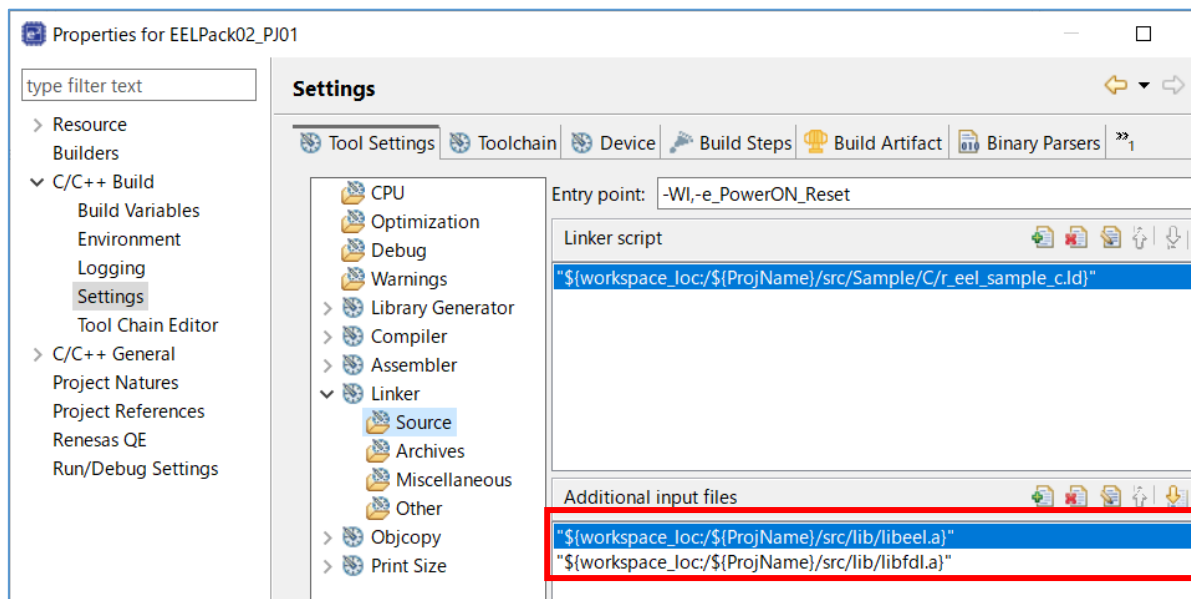

Figure 6-17. Specifying the Library File (LLVM)
- LLVM: Click the right mouse button for the project in a tree, and select "Properties". Register the file path of the library files "libeel.a" and "libfdl.a" in the "Additional input files" field on the screen displayed in "C/C++ Build" [Settings] – "Linker" [Source] (as shown in Figure 6-17).